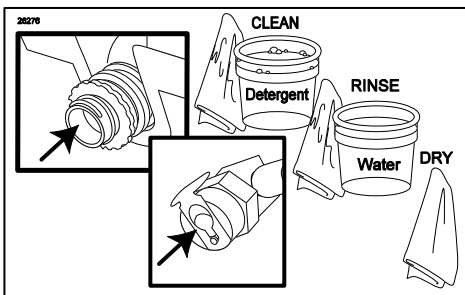

Figure 160
9. Clean the outer surfaces of the Syrup Bag Connector with detergent water, single service towel and brush if necessary. Then rinse and dry the connector using clean water and single service towels. (See Figure 160.)